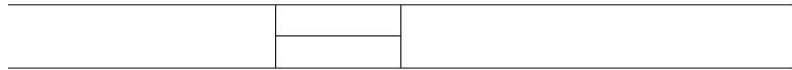

FIGURE 7.17: Completed lines for the window block
8. Start the Line command again. Move the cursor near the midpoint of the line you first drew. When the midpoint symbol appears, click. Move the cursor near the midpoint of the line that was just offset. When the Perpendicular or Midpoint symbol appears, click. Press \downarrow to end the Line command. Your drawing should look like Figure 7.17.